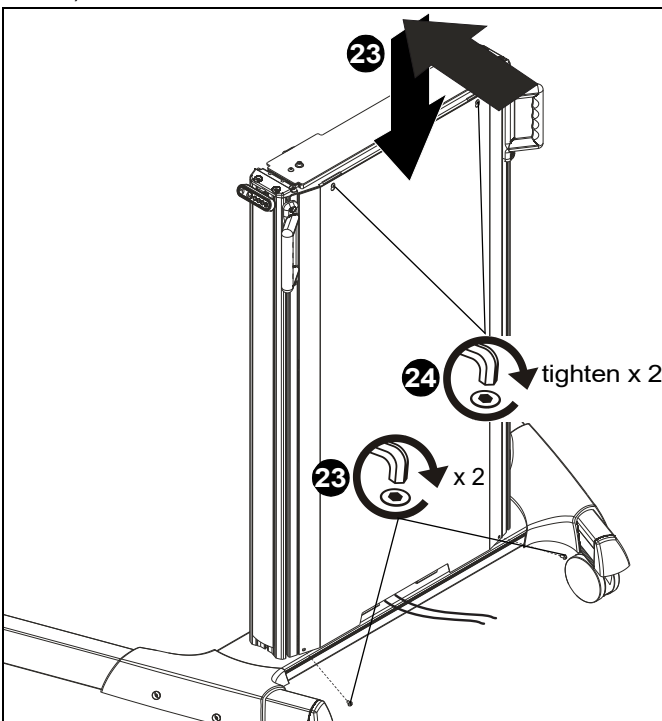

Figure 13
24. Reinstall rear cover and secure by installing screws removed in Step 10. (See Figure 13)
25. Tighten screws that were loosened in Step 11. (See Figure 13)